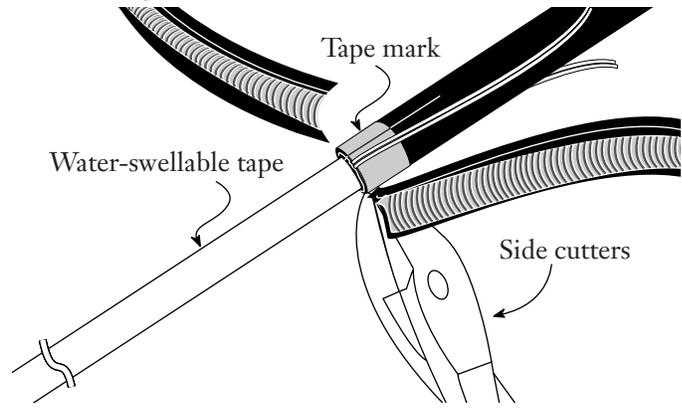

Figure 36
7.15 Carefully flex the sections of sheath/sheath and armor and remove them. Side cutters may be helpful in removal (Figure 36).